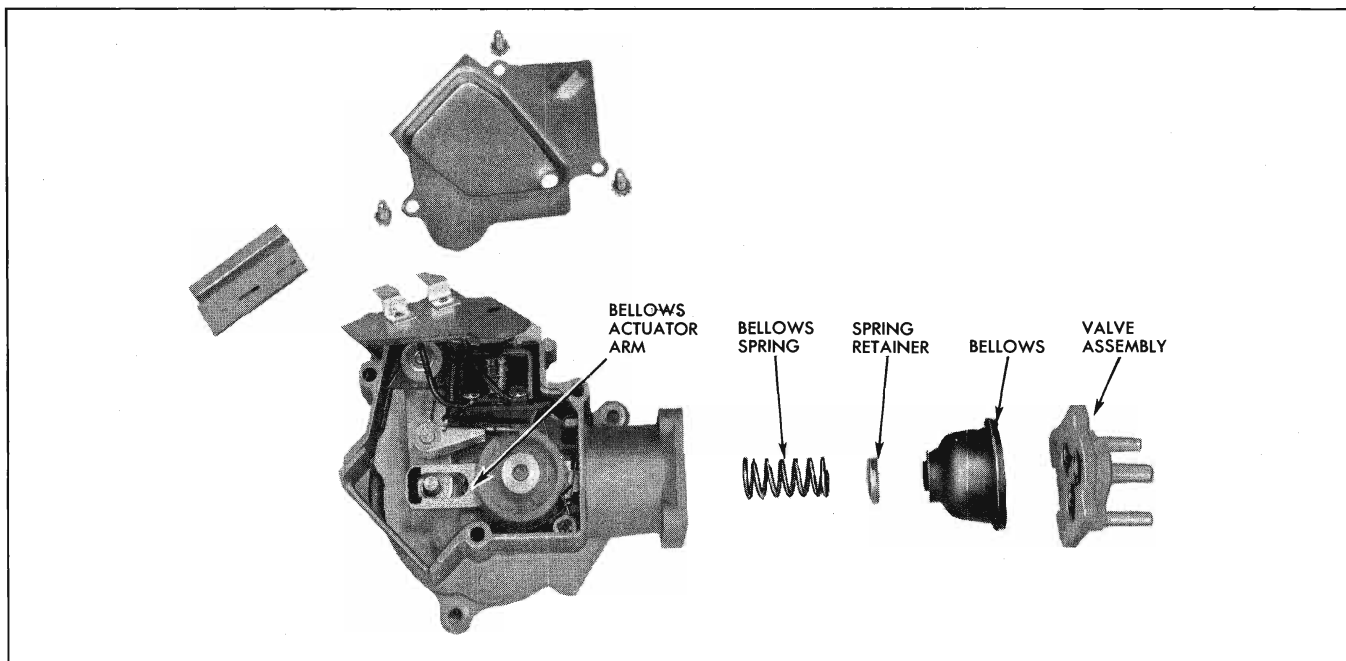

Fig. 11-111 Washer Pump—Exploded View
1. Remove the four screws that secure the valve assembly to the housing (Fig. 11-111) and gently pry the bellows lip out of the valve body.